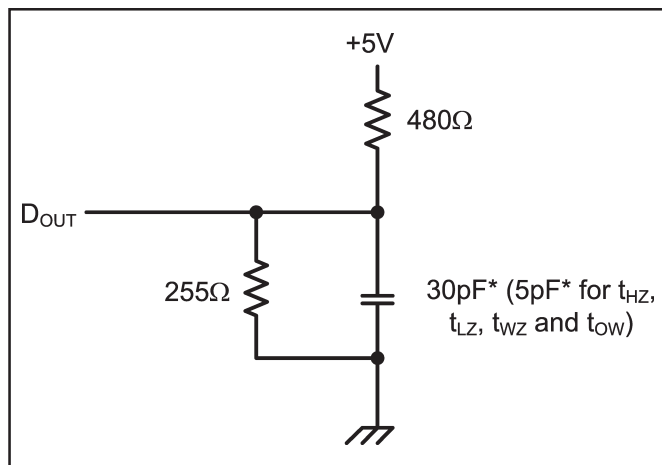

Figure 1. Output Load
- Transition is measured  $\pm 200$  mV from steady state voltage prior to change, with loading as specified in Figure 1. This parameter is sampled and not 100% tested.
| Output Load                   | See Figures 1 and 2 |